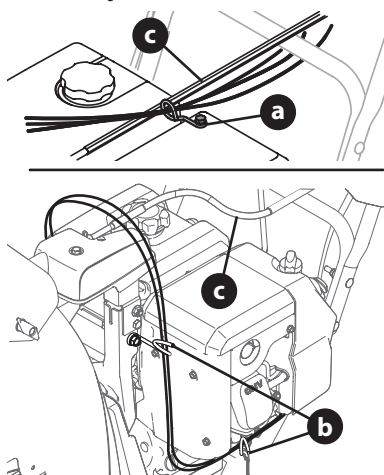

Figure 41
Chute control cables are routed through a single wire guide (a) on top of the engine and/or through two wire guides (b) located on the front and left side of the engine (Figure 41).
- Top Mounted Wire Guide (a) - Check that all cables are properly routed through cable guide on top of engine (Figure 41).
- Front and Side Mounted Wire Guides (b) - Check that all cables are properly routed through the wire guide below the left side of the engine and the wire guide below the chute control head (Figure 41).